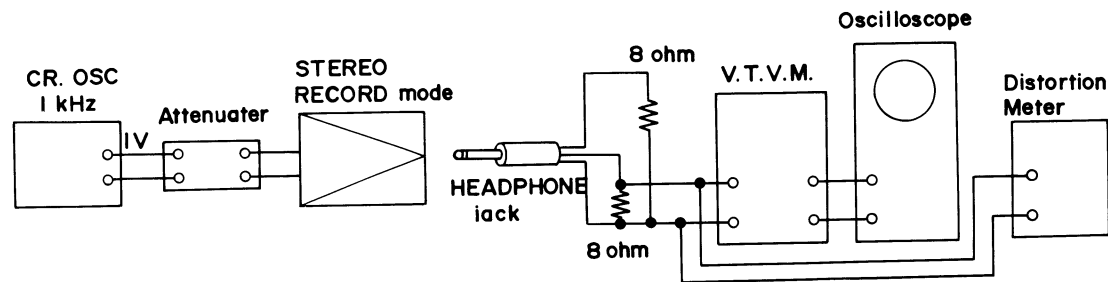

Fig. 21
3. MONITOR OUTPUT VOLTAGE AND DISTORTION (Refer to Fig. 21)